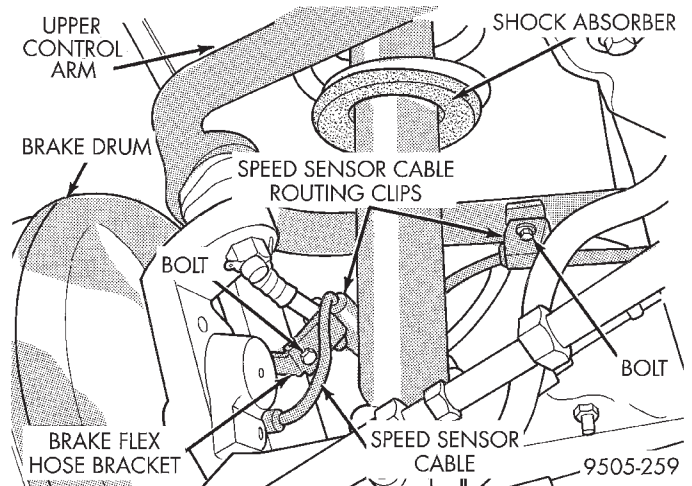

Fig. 26 Speed Sensor Cable Attachment To Control Arm
(8) If vehicle is equipped with antilock brakes, remove routing clips for wheel speed sensor cable from brackets on both upper control arms (Fig. 26).
(7) If vehicle is equipped with antilock brakes, install the wheel speed sensor cable routing clip on upper control arm mounting bracket. Install and securely tighten attaching bolt (Fig. 26).